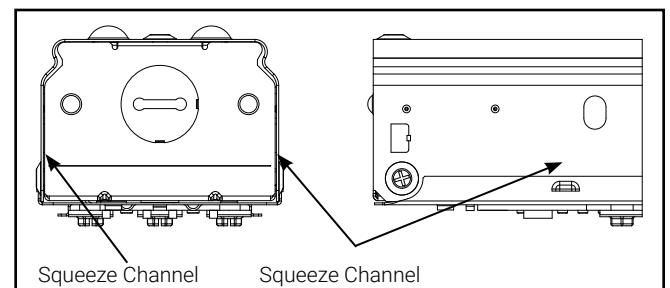

Figure 2.
2. Remove cover from channel by squeezing inward below each tab (Figure 2). Gradually lift up cover as you continue to squeeze channel at each tab location.